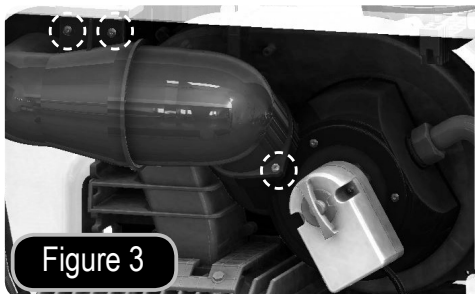

Figure 3
4. Use a hand screwdriver to remove the 3 screws for the air pipe. See Figure 3.
Replacing the air pipe, see Figure 3.